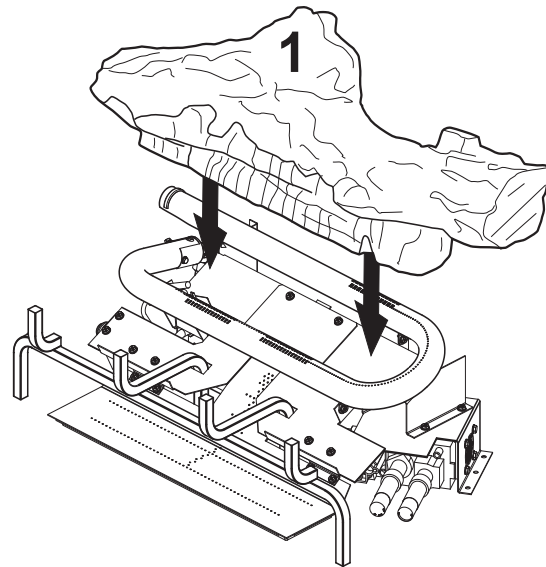

Figure 22 - Installing Log #1
1. Place rear log (#1) on base assembly as shown in **Figure 22**. Log will fit over right end of burner and rest in middle of U-burner.